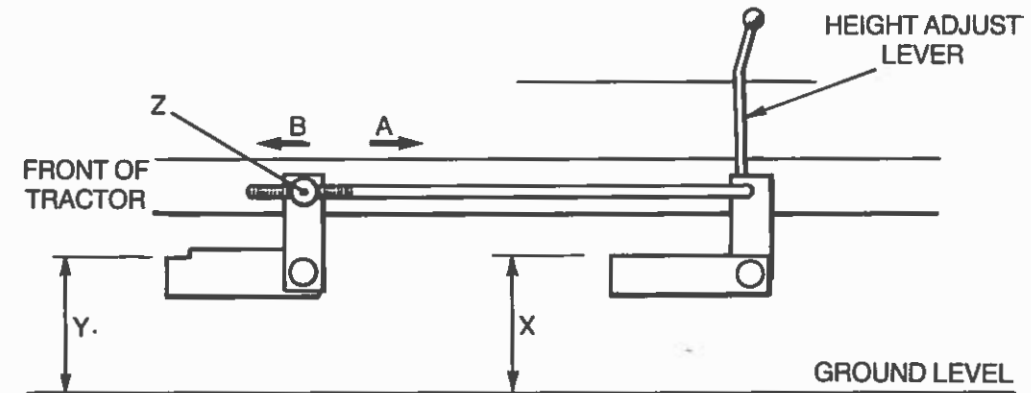

FIG. 5
3. Deck Level (Refer to Fig. 5)